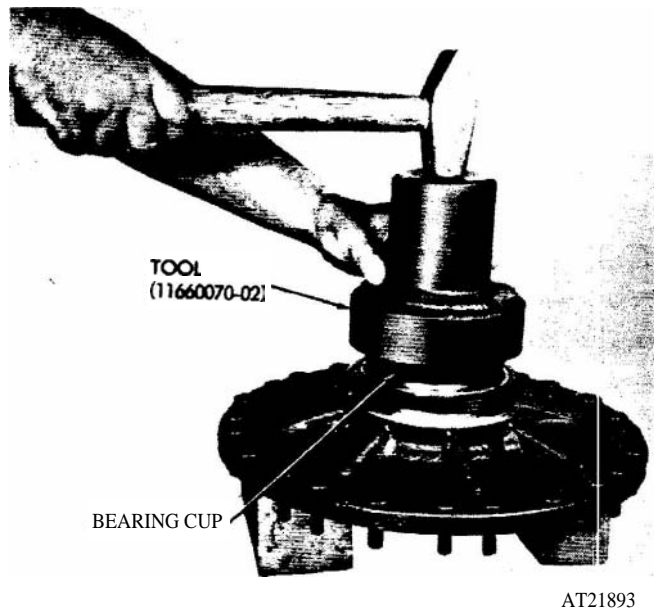

Figure 2-240. Rear bearing cup installation.
(9) Position rear bearing cup in hub and install using tool (11660070-02) (fig 2-240).